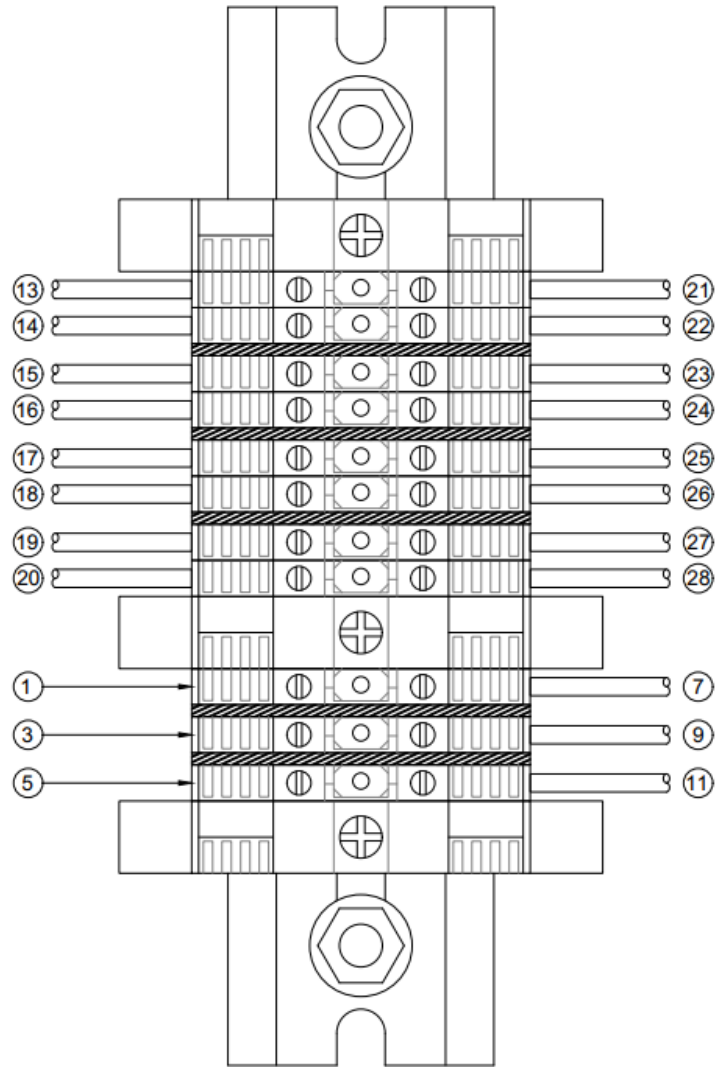

Figure 7b – Diagram –
1.10.4.2. Terminal Strip and Control Panel. See Figure 7a and Figure 7b for information on connection to the terminal strip in the upper enclosure. Use Section 5.1 – Fenwal manual 06-236529-001 to guide the installation of connections to the control panel. Terminals for 110VAC power accept qty. (1) 10 ga. max. conductor. NOTE: All conductors used for field wiring must comply with NFPA 70 – National Electrical Code, and control panel manufacturer's instructions (see Section 5). See Section 5 for information on power-limited conductor runs.
Legend for Figure 7b